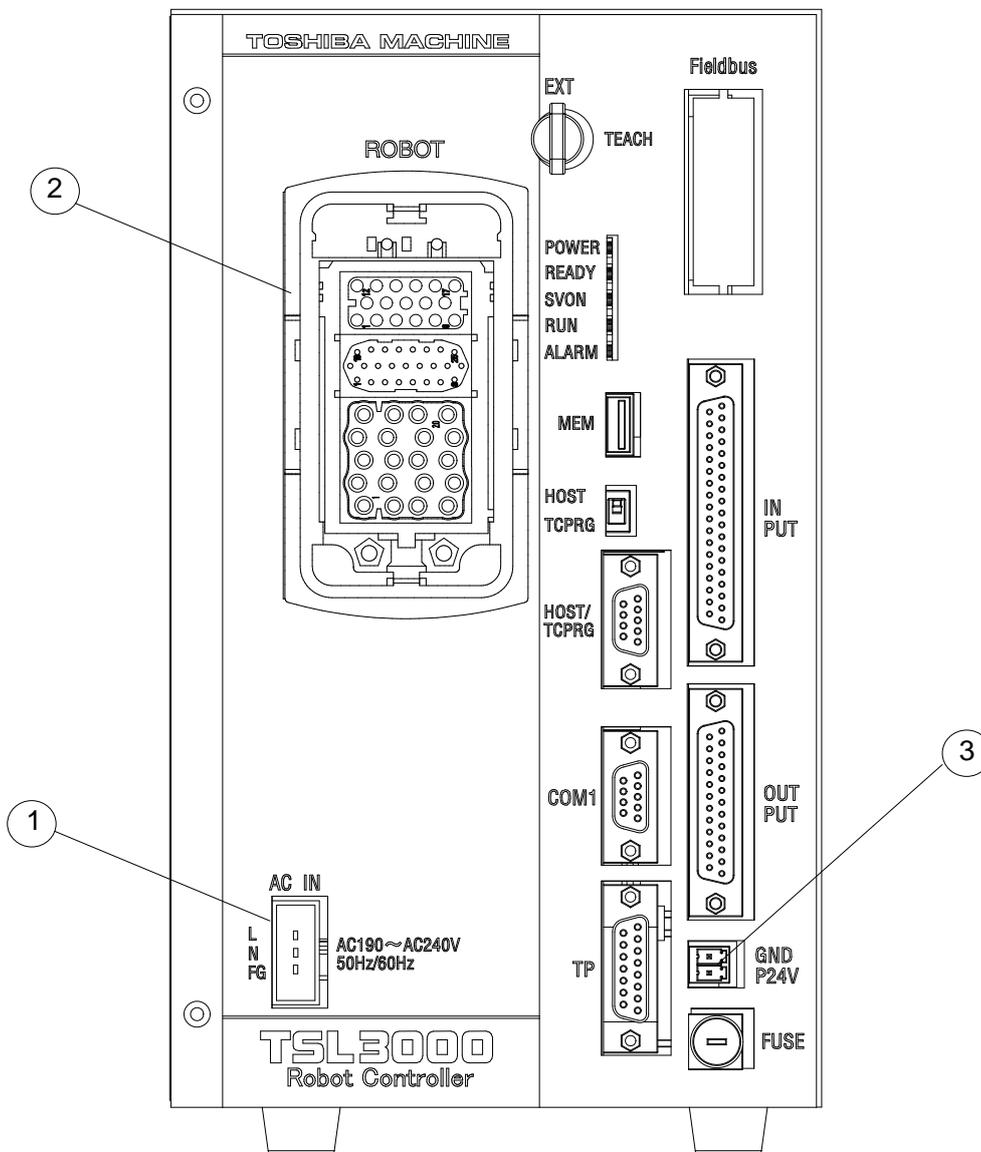

Fig. 13.1 Robot controller connector arrangement (TSL3000)
The cables connected to the robot controller are shown in Fig. 13.1.
(① of Fig. 13.1) (Plug connector attached)
The connector is ACIN (① of Fig. 13.1).
13.1.3 Connecting the Motor Cable "ROBOT" (Ⓜ of Fig. 13.1) (THL300 to THL1000)
13.1.4 Connecting the Encoder Cable "ROBOT" (② of Fig. 13.1)
13.1.5 Connecting the Robot Control Signal Cable "ROBOT" (② of Fig. 13.1)
13.1.6 Connecting the Brake Signal Cable "ROBOT" (② of Fig. 13.1)
13.1.7 Connecting the External Input/Output Power Cable "GNDP24V" (③ of Fig. 13.1)